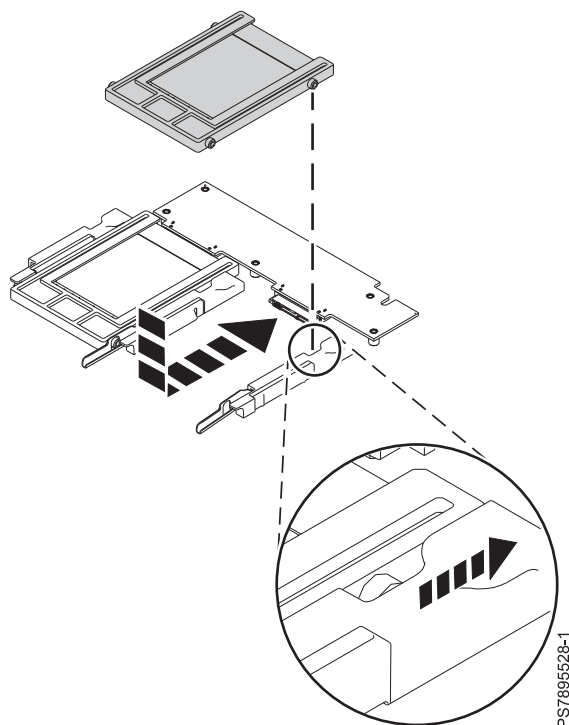

Figure 11. Installing an SSD carrier
9. Place the carrier case into the drive tray and push it toward the rear of the compute node, as indicated in Figure 11 on page 40. When the SSD carrier moves past the lever at the front of the tray, it snaps in place.